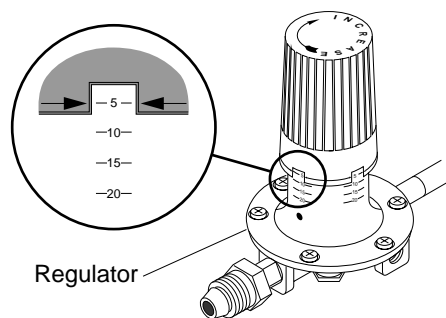

Figure 5 - Adjustable Regulator Set At 7 psig
5. Adjust regulator between 7 and 20 psig (see Figure 5). **Note:** Higher regulator setting will allow heater to produce more heat.